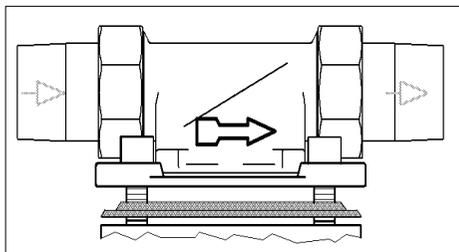

Fig. 1: Built-in rotary flange
- Direction of flow (see Fig. 1)
**The built-in rotary flange must be installed in the direction of flow. This is marked by a cast in arrow (see Fig. 1).**